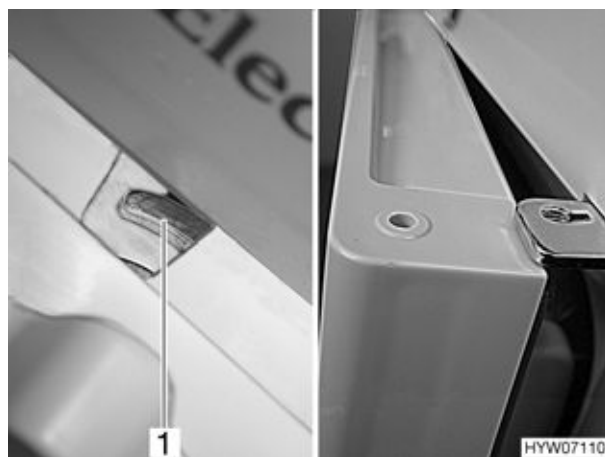

Fig. 154 Refrigerator door in the ventilation position (variant 3)
- Fix the refrigerator door using the door latch (Fig. 154,1). The refrigerator door will then stay slightly open (Fig. 154).